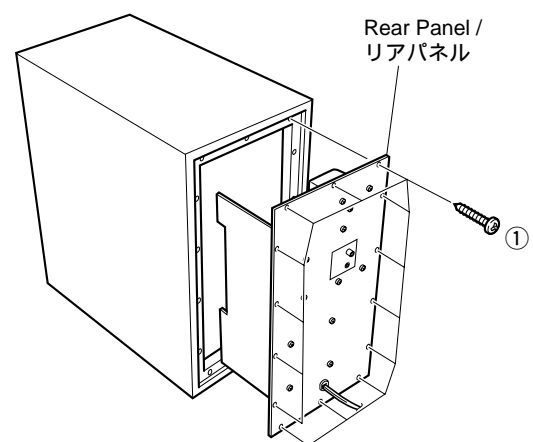

Fig. 2
Remove 14 screws ( ① ) in Fig. 2.
(Fig. 2)